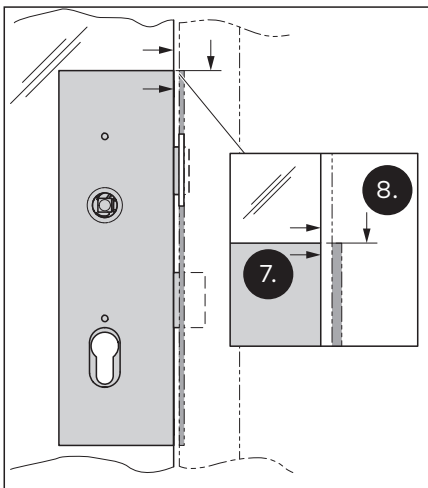

Fig. 25 Align the lock mortise and the latch
7. Align the lock mortise so that it is vertically flush with the glass edge (Fig. 25).